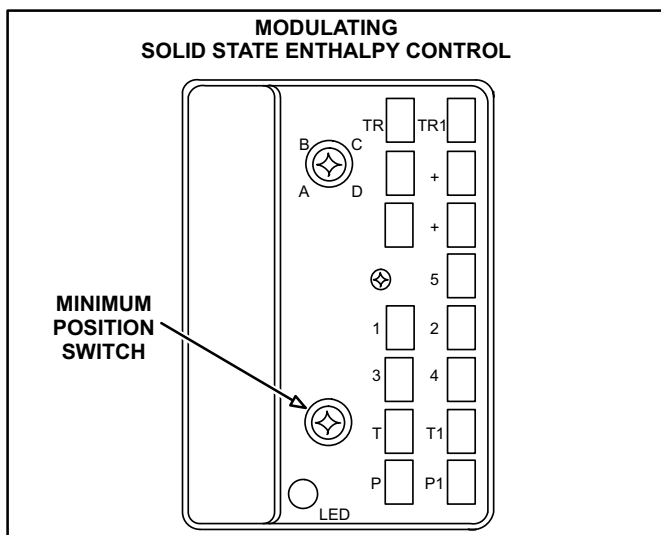

FIGURE 31
- 4 -Install jumper across enthalpy control terminals T and T1. See figure 31 for location.
- 7 -Remove T and T1 jumper then restore power to the unit. Outdoor damper should drive to minimum position. Adjust minimum damper position pot located on control. See figure 31.